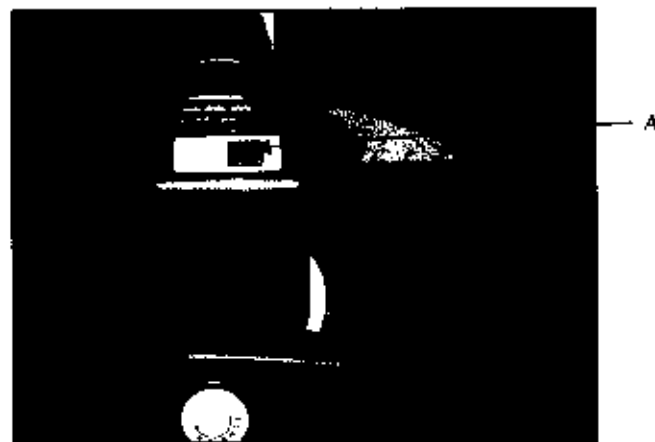

Fig. 6-23. Artic Titan 1040 WF c Rewinder and Power Switch
A. Rewinder Power Switch (Figure 6-23)